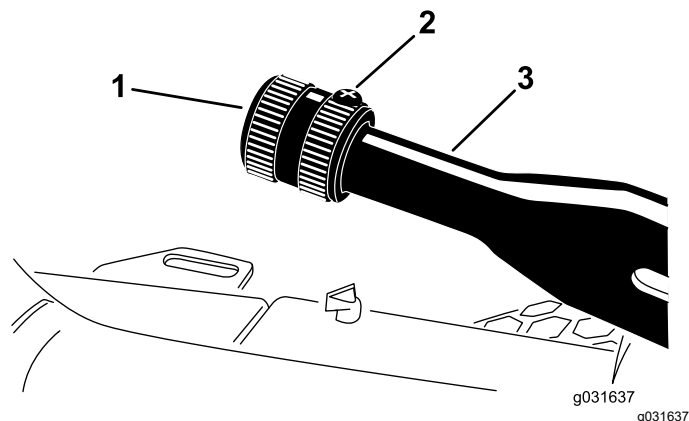

Figure 57
1. Loosen the set screw securing the knob to the parking-brake lever (Figure 57).